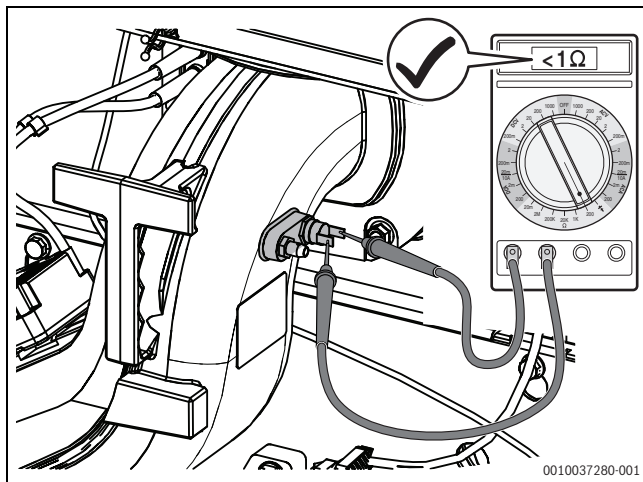

Fig. 85 Measure the electrical resistance across the contacts of the temperature switch (temperature switch ok)
- ▶ Measure electrical resistance across the contacts of the temperature switch (→ Fig. 85).